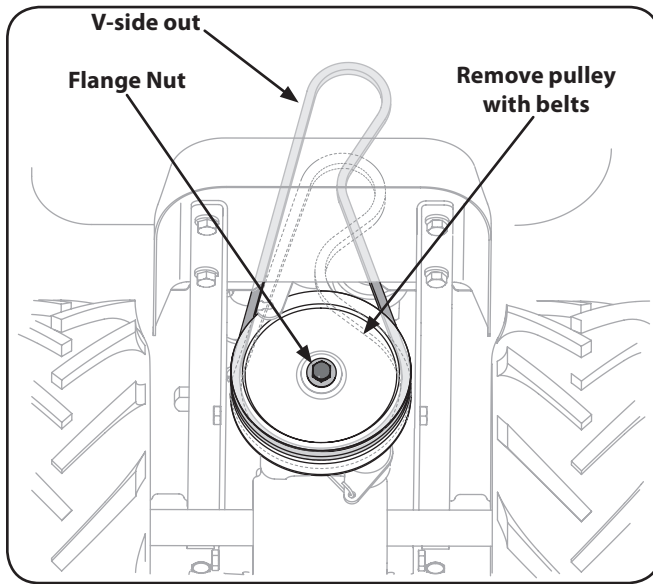

Figure 7-5
- Remove the flange nut securing the transmission drive pulley, then remove the pulley along with the two belts. See Fig. 7-5.